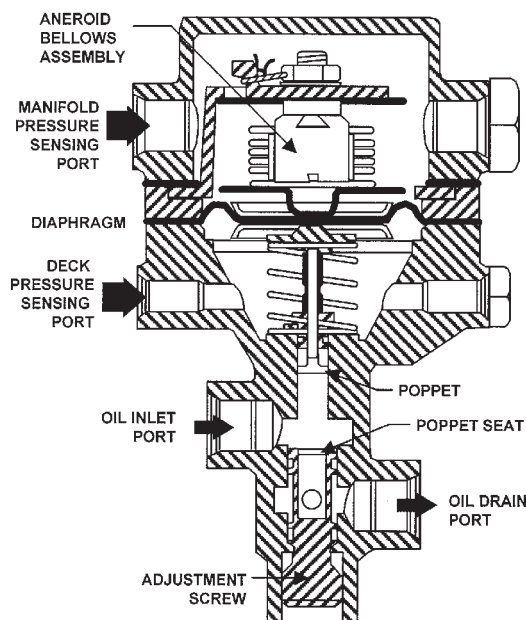

Figure 6-56. Sloped Controller
3. With the throttle in the FULL FORWARD position, set the intake manifold pressure according to the value in Section 6-4.7.1 for the engine model by turning the adjusting screw on the bottom of the slope controller (Figure 6-56) using a wide blade common screwdriver. Turning the screw clockwise (*CW*) increases manifold pressure, counter-clockwise (*CCW*) decreases manifold pressure.